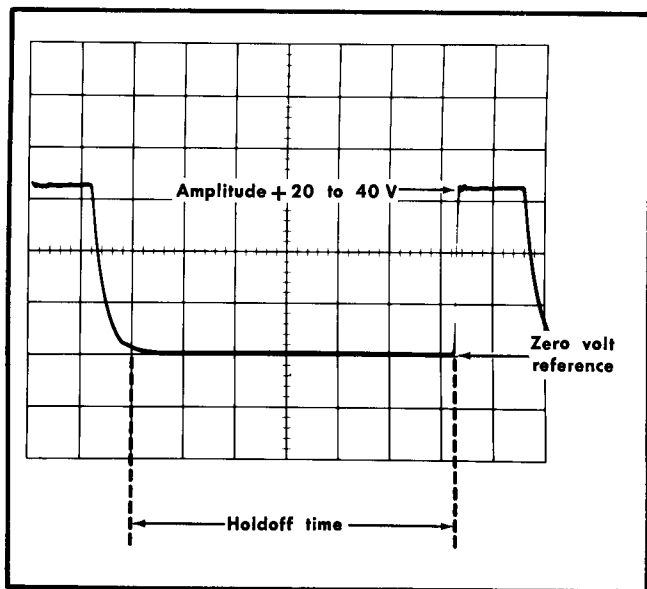

Fig. 5-7. Typical test oscilloscope display showing correct operation of the +GATE A and +GATE B circuits.
- d. Check—Waveform amplitude of 20 to 40 volts and holdoff time (lower portion of the square-wave display) as specified in Table 5-4. See Fig. 5-7.
- d. Check—Waveform amplitude and holdoff time. See Fig. 5-7.